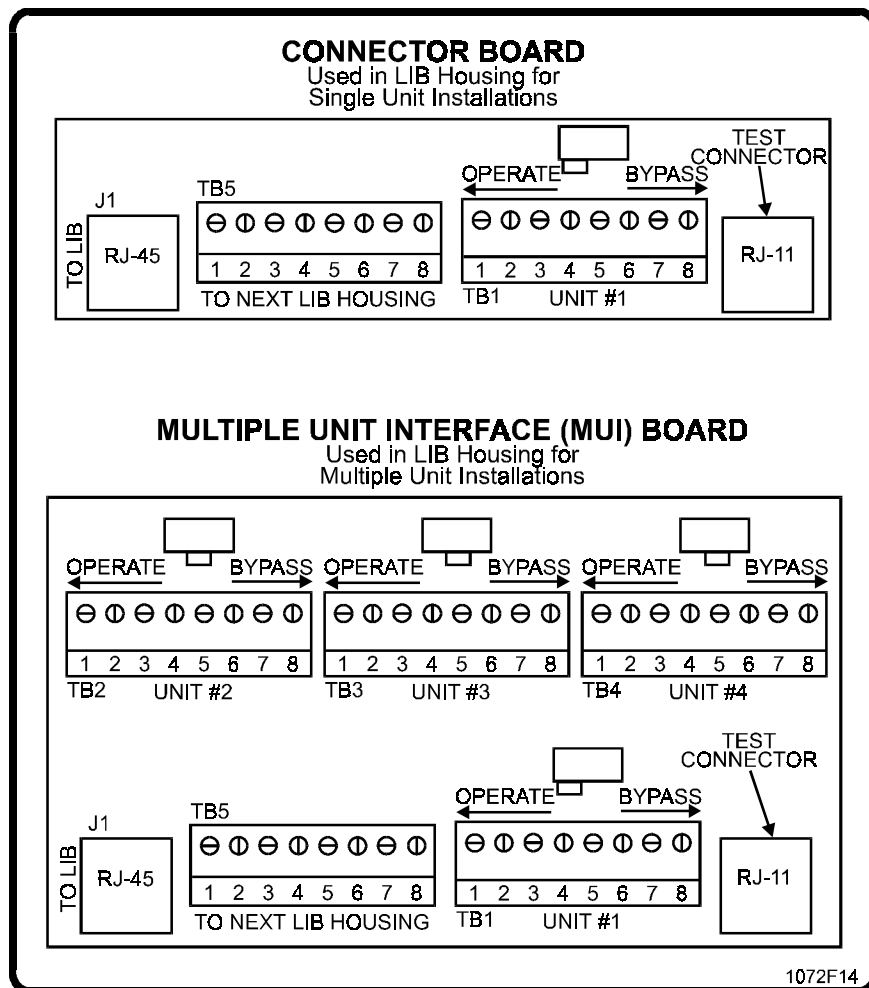

Figure 15. Connector Board and MUI Board Connections.
1. **Single Unit Installations:** Connect the 4 twisted pair cable from the Ovation controller to TB1 on the connector board in the first LIB housing (see Figure 15).
Multiple Unit Installations: Connect the 4 twisted pair cable from the Ovation controller to TB1 on the MUI in the first LIB housing (see Figure 15).
1. Plug your test telephone into the test connector on any MUI, lift the handset and dial "***5". A beep will indicate you are in a limited programming mode (you may only do the areas described on this and the last page). See Figure 15 for location of the MUI test connector.
2. **Audio Continuity:** If the audio on a hands-free system is "clipping", have the called party speak while you adjust the "TENANT BIAS" pot (see Figure 15) in small increments. Adjust the pot clockwise if the resident's voice is clipping and counter-clockwise if the visitor's voice is clipping, until communications are clear. **Note:** Pot is normally set in the center of its range.